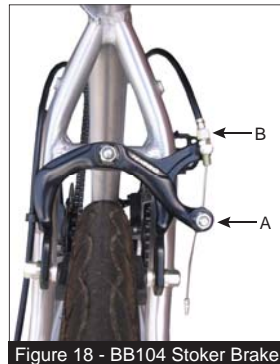

Figure 18 - BB104 Stoker Brake
**Captain Disc Brakes (Front & Rear):** Use the barrel adjuster on the brake lever (B in **Figure 18**) or the in-line barrel adjuster (A in **Figure 18**) to remove any cable slack from the system. Turn the adjuster out until there is no free play in the lever but not so far that the torque arm on the caliper is
**Stoker Caliper Brake (Rear):** Loosen the fix bolt (similar to A in **Figure 18**) on the stoker caliper brake on the rear wheel and the barrel adjuster (similar to B in **Figure 18**). Pull out cable slack with a pair of pliers. Tighten the fix bolt and the barrel adjuster.
**Remove the Rear Wheel:** Removal and installation of the rear wheel has a few extra steps because of the gear cluster. Just like the front wheel, you'll need to deflate the tire. If you do not wish to deflate the tire, it will be necessary to loosen the fix bolt (A in Figure 18). Next, adjust your rear shifter until the chain is on the smallest sprocket. Then loosen the quick release lever and carefully removed the wheel.
**Install the Rear Wheel:** To re-install the rear wheel, first place the chain back onto the smallest sprocket, and then slide the axle evenly up into the rear dropouts. Tighten the quick release lever the same way as the front wheel, with the lever on the left side of the bike. Make sure the lever is safely tucked in between both of the left chain stays. Inflate the tire AFTER it has been installed. Make sure the pads are lined up correctly with the rim and tighten the fix bolt (A in Figure 18) if you removed it earlier.